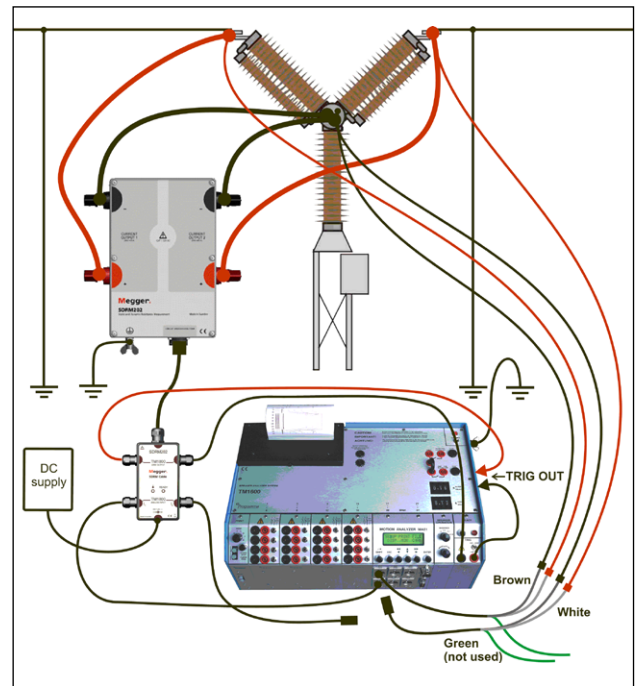

Fig. 8.2.1 Hook up example. Figure shows hook-up with SDRM202. The SDRM201 is hooked-up the same way but with only one channel.
- 1] Hook up the SDRM201/202 to the CB, see example in figure 8.2.1.